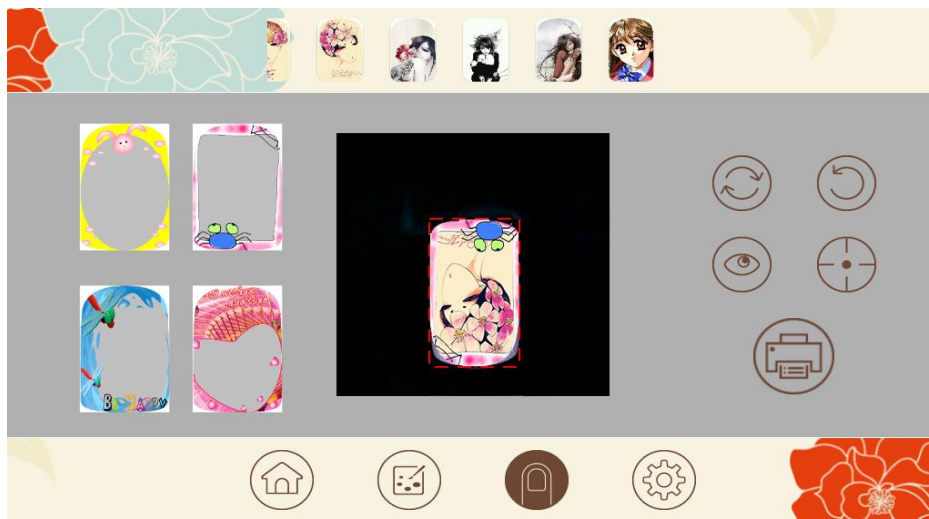

Figure 11
(4) Photo frames and clipping frames are available to modify the printing pattern, as shown in Figure 11.